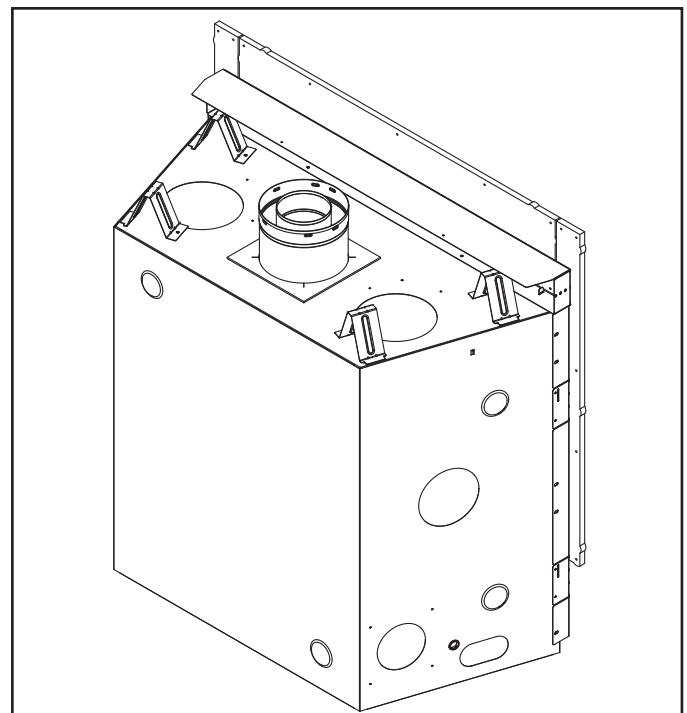

Figure 6.4 JADE32IN-B
2. Remove and discard seal cap. See Figure 6.4.